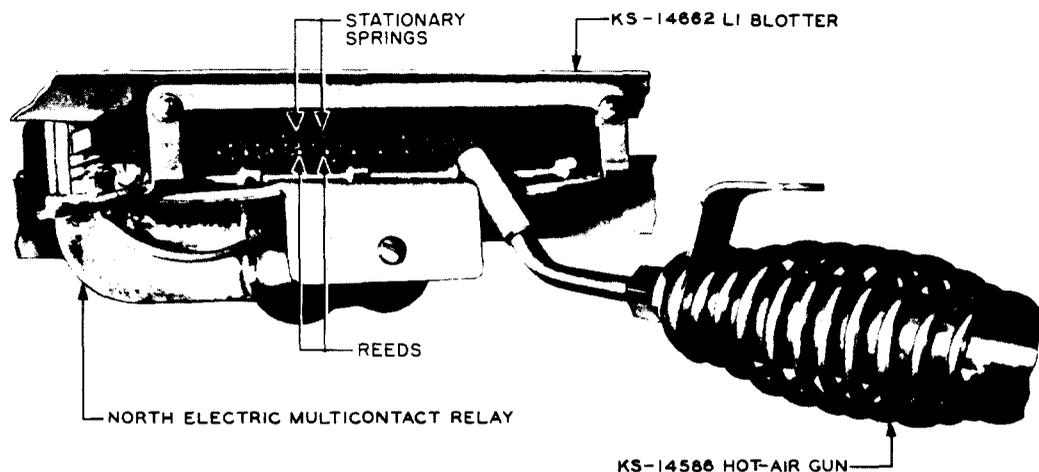

Fig. 3 - Removing Contact Protectant
**3.04 KS-14662 L1 Blotter:** Cut a KS-14662 L1 blotter so that it will fit snugly between the uprights of the frame on which the relays are mounted. Place the blotter on the top of the relays to be cleaned so that it is above the contacts and projects about 1/2 inch beyond the ends of the springs. See Fig. 3.
4.03 Clean the relay contact springs by directing the hot air from the gun upward against the springs, as shown in Fig. 3. Keep the nozzle of the gun approximately 1/16 inch below the springs. Move the nozzle slowly in and out below the contacting portion of the springs to melt and blow the old contact protectant and other debris from the springs onto the blotter.
8. To omit Fig. 3 of previous issue.